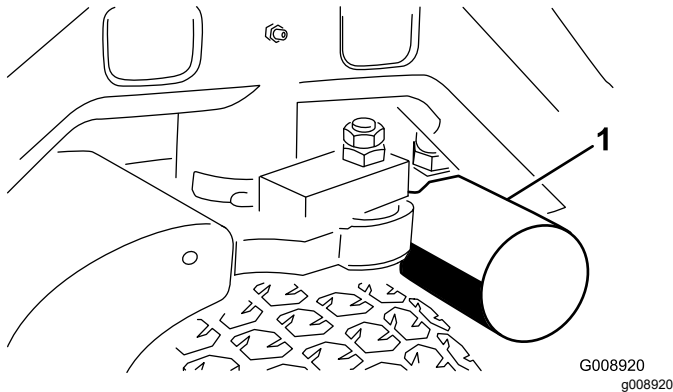
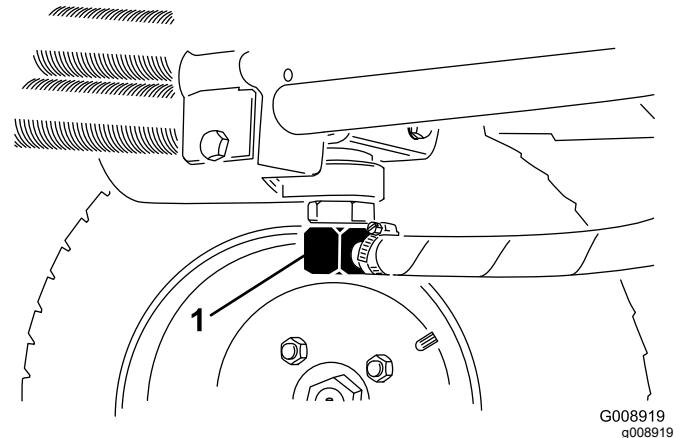

Figure 64
Figure 65
3. Clean around the filter mounting area. Place a drain pan under the filter (Figure 64) and remove the filter.
2. Disconnect the hydraulic line (Figure 65) or remove the hydraulic filter (Figure 64) and let the hydraulic fluid flow into a drain pan. Install the hydraulic line when hydraulic fluid stops draining.